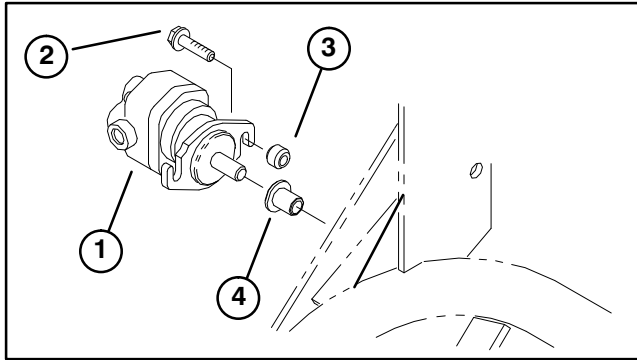

Figure 9
B. Insert spline shaft of reel motor into storage tube on frame (Fig. 9).
C. Using reel motor flange as template and positioning as shown in figure 9, locate, mark and drill a .344" dia. hole on scribed line.